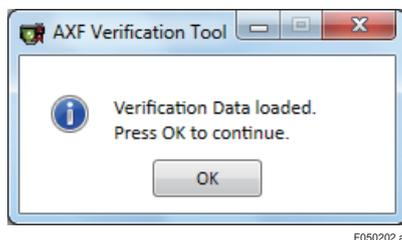

Figure 5.2.2 "Verification Data Loaded" Dialog
- 2) After loading, **Figure 5.2.2** is displayed automatically. Click "OK". "Main Screen" is displayed. See Chapter 6.